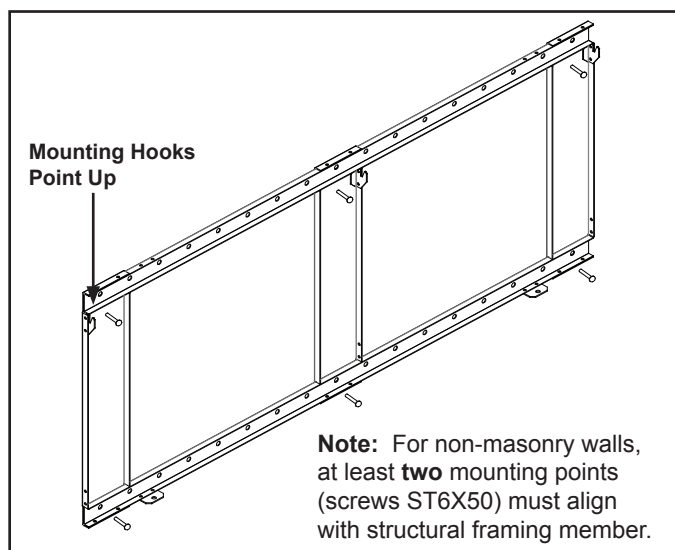

Figure 31. Bracket Attachment
- With mounting hooks pointed up, attach the bracket to the masonry anchors with ST6X50 screws. See Figure 31.